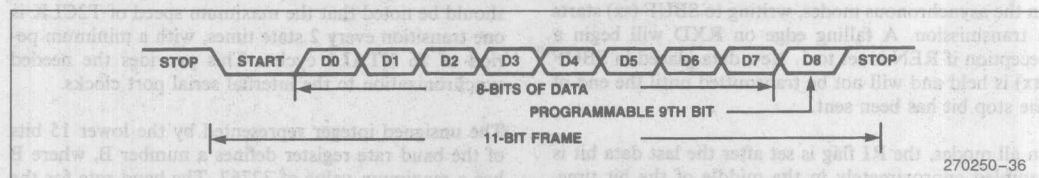

Figure 36. Serial Port Frame Modes 2 and 3
Mode 2 is the asynchronous 9th bit recognition mode. This mode is commonly used with Mode 3 for multi-processor communications. Figure 36 shows the data frame used in this mode. It consists of a start bit (0), 9 data bits (LSB first), and a stop bit (1). When transmitting, the 9th bit can be set to a one by setting the TB8 bit in the control register before writing to SBUF (tx). The TB8 bit is cleared on every transmission, so it must be set prior to writing to SBUF (tx) each time it is desired. During reception, the serial port interrupt and the Receive Interrupt (RI) bit will not be set unless the 9th bit being received is set. This provides an easy way to have selective reception on a data link. Parity cannot be enabled in this mode.